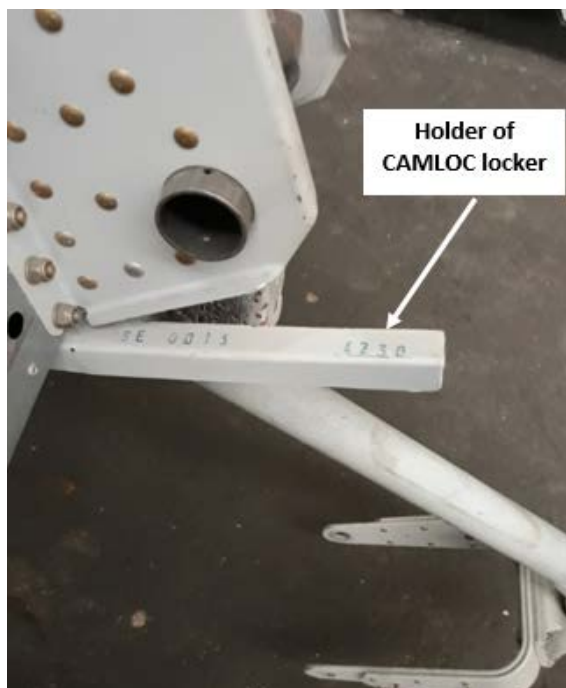

Figure 5: Holder of CAMLOC locker
4. Remove the holder of CAMLOCK locker from the airplane. Install the disassembled washers and nuts (that fastened the holder to the fuselage) back to the fuselage (see Fig. 5, 6).